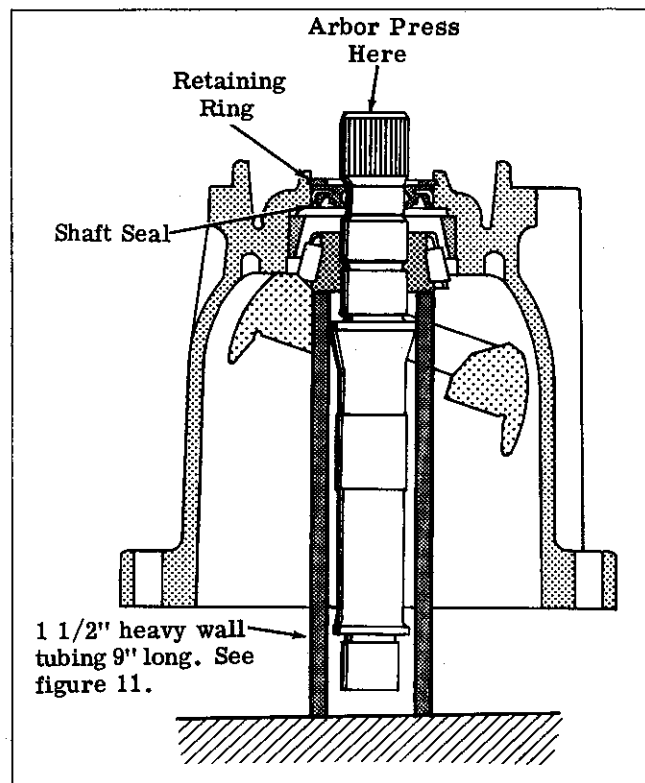

Figure 17. Front Bearing Removal.
20. Remove and replace shaft seal (52) located within housing (33) as follows: (Refer to Figure 17.)
a. Install a nine inch piece of 1 1/2" heavy wall tubing over drive shaft (55) within the housing. The end of the tubing will rest against the inner race of tapered roller bearing (69) and extend out beyond the end of the pump housing. Place the complete unit with tubing into an arbor press with drive spline up. Press the drive shaft through the bearing and out of the unit. A 0.001 press exists between the shaft and bearing so considerable force is required to remove the bearing. See Figure 17.
b. Remove retaining ring (51) and pull shaft seal (52) from housing (33). Be careful not to damage the aluminum die cast housing in the seal area.
c. Press drive shaft (55) into shaft bearing (69) as follows: Use a short piece of 1 1/2" inch heavy wall tubing (approximately 6" long) over the drive spline of the shaft. The tubing must be long enough to go through the shaft seal end of